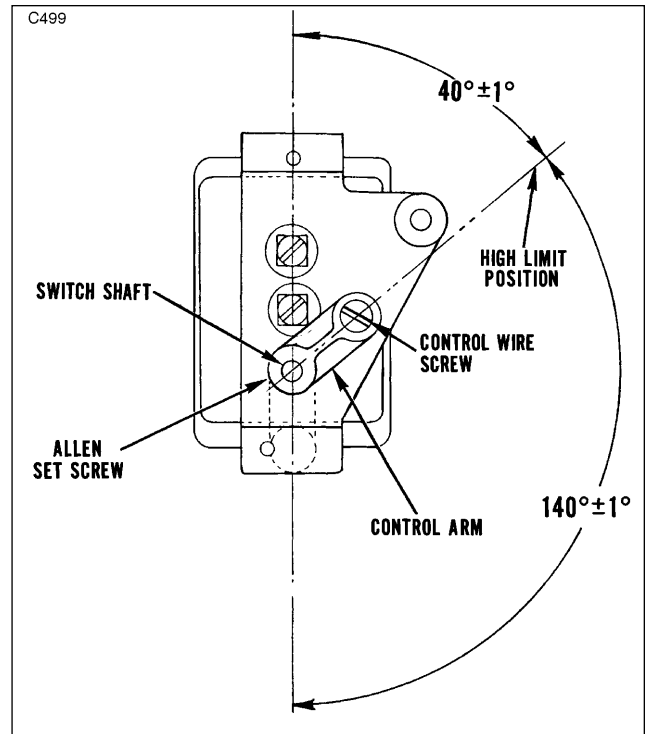

Figure 13-24. Top View - Duct Switch
13-95. DUCT SWITCH. (Refer to Figure 13-24.)
- h. Connect the duct switch control cable to the switch on the left side of the air distribution box. Adjust the cable so that when the control knob is full in against its stop, the control arm aligns with the vertical line of the switch. (Do not loosen the allen set screw that secures the arm to the switch shaft.) Pull the control knob out to ascertain that the control arm will have a $140^{\circ} \pm 1^{\circ}$ travel to high heat position. (Refer to Figure 13-24.)